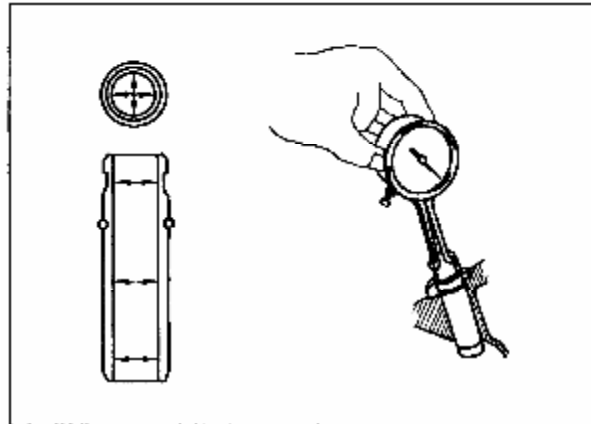
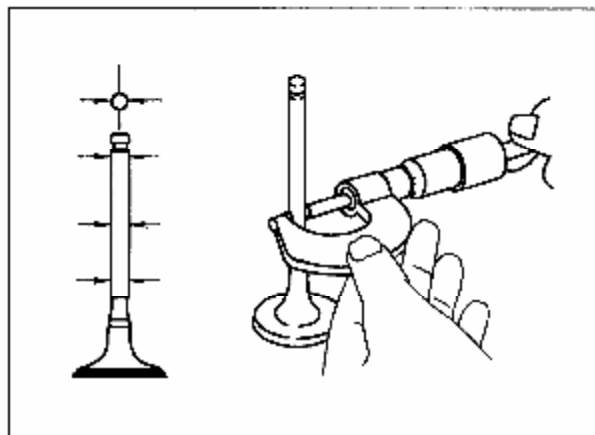

Figure 3-7 Check Diameter of Valve Guide
Figure 3-8 Check Diameter of Valve Stem
3.1.7 Check the fitting clearance between valve stem and valve guide hole (see Figure 3-7, Figure 3-8)